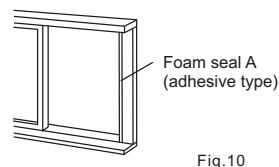

Fig.10
1. Trim foam seal (with adhesive) to the proper length and attach to window frame. Fig.10